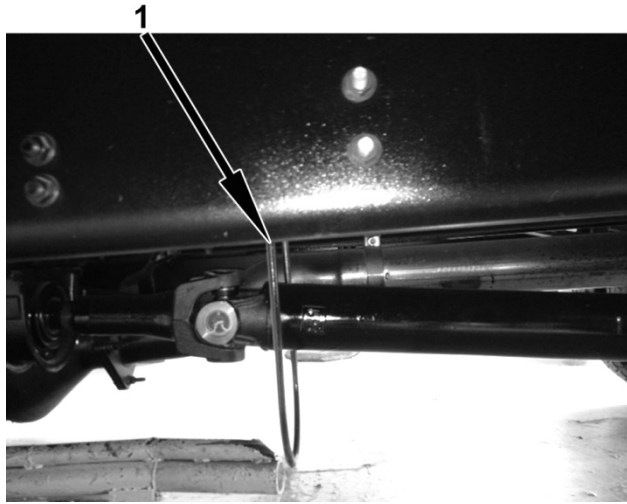

Figure 3
6. Place new bracket on top of old bracket and bolt two brackets together using two new ½ in. bolts and nuts and tighten fasteners to 85 lb-ft (115.2 N·m) (Figure 3).